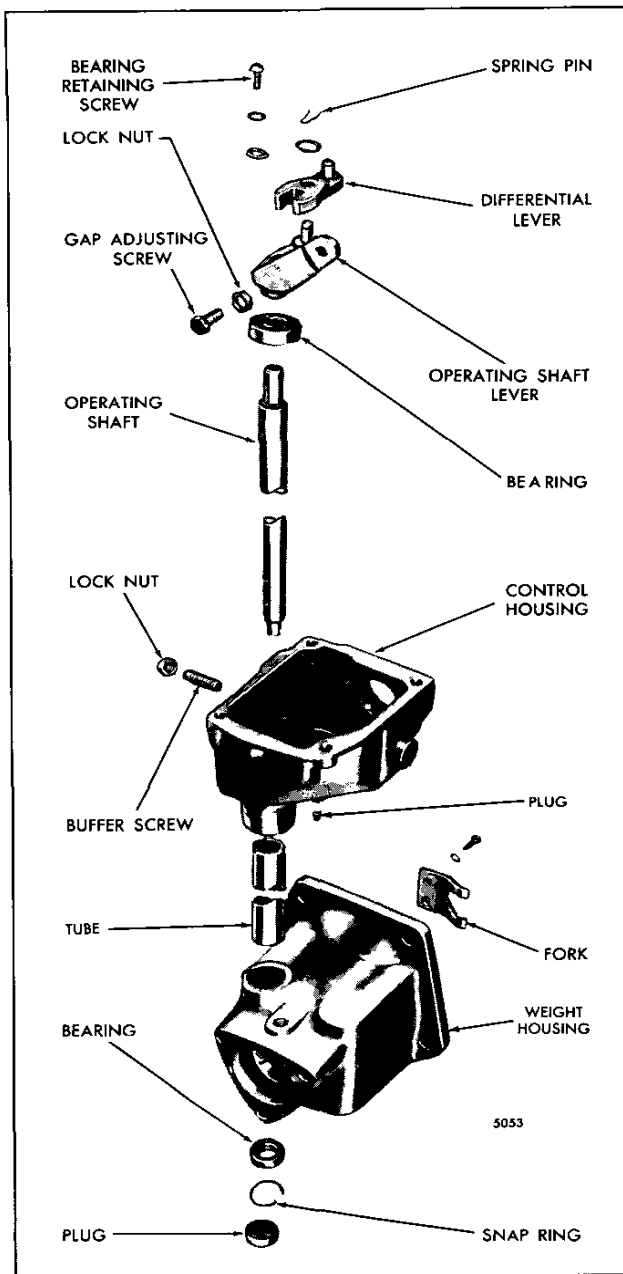

Fig. 5 - Governor Housings and Relative Location of Parts
3. Install the governor operating shaft lower bearing, numbered side out, in the weight housing. Install the snap ring to secure the bearing (Fig. 5).